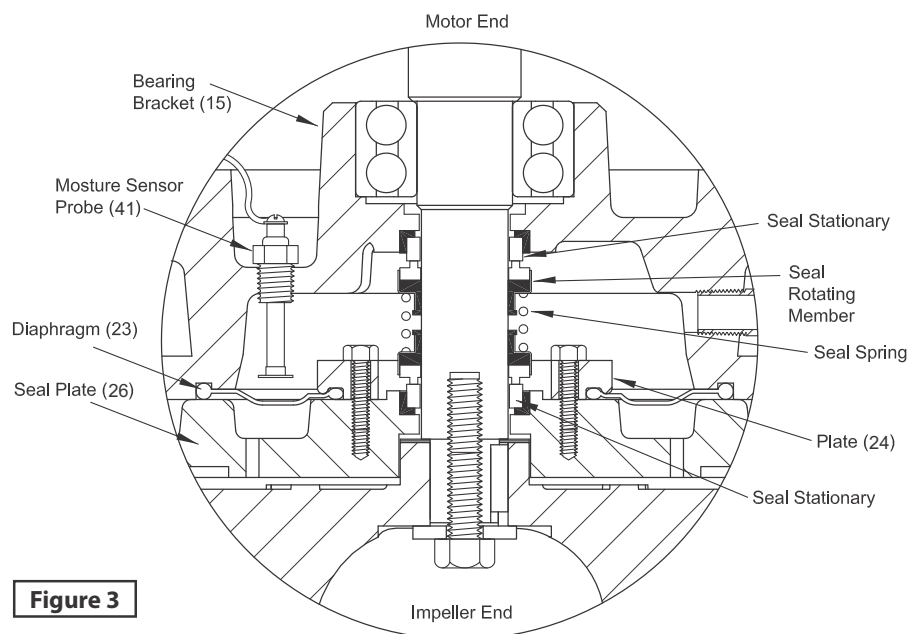

Figure 3
Seal/Diaphragm - (See Figure 3) Clean and oil seal cavities in bearing housing (15) and seal plate (26). Lightly oil (**Do not use grease**) outer surface of inboard and outboard stationary members of seal (19). Press inboard stationary member firmly into bearing housing (15) and outboard stationary into seal plate (24), using a seal pusher tool. Nothing but the seal pusher tool is to come in contact with seal face.